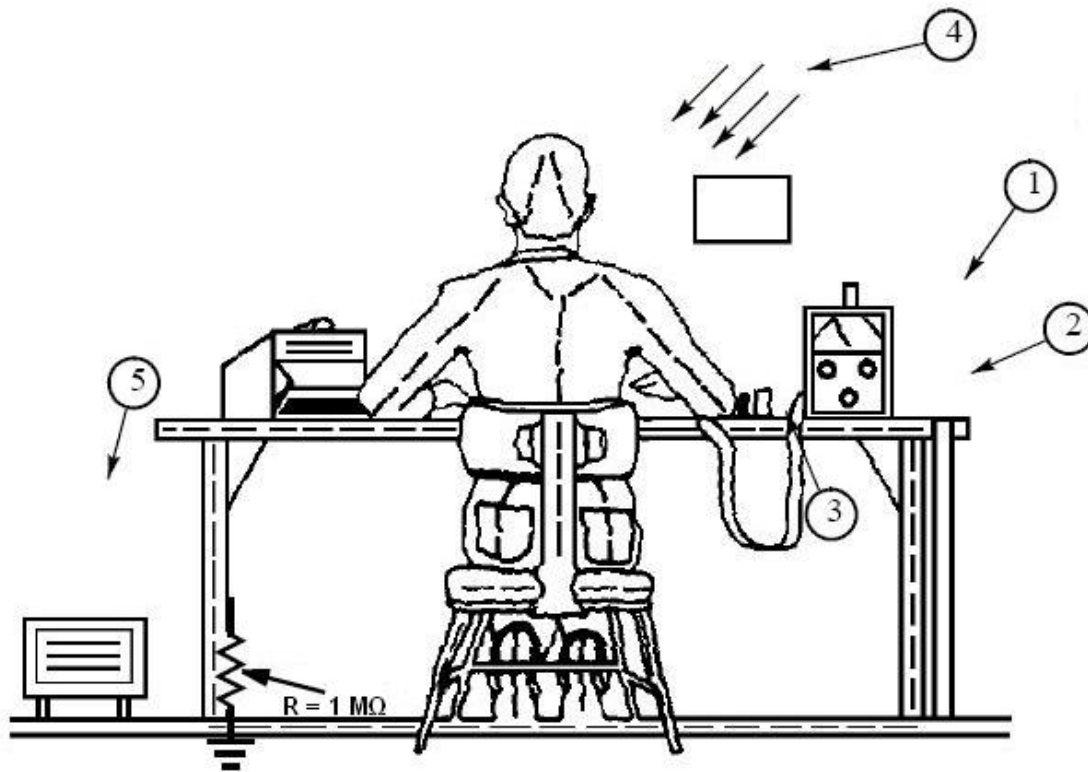

Figure 32. Typical Manufacturing Work Station
6. All CMOS devices should be placed on a grounded bench surface and operators should ground themselves prior to handling devices, because a worker can be statically charged with respect to the bench surface. Wrist straps in contact with skin are strongly recommended. See **Figure 32** on page 78.
Notes for **Figure 32:**